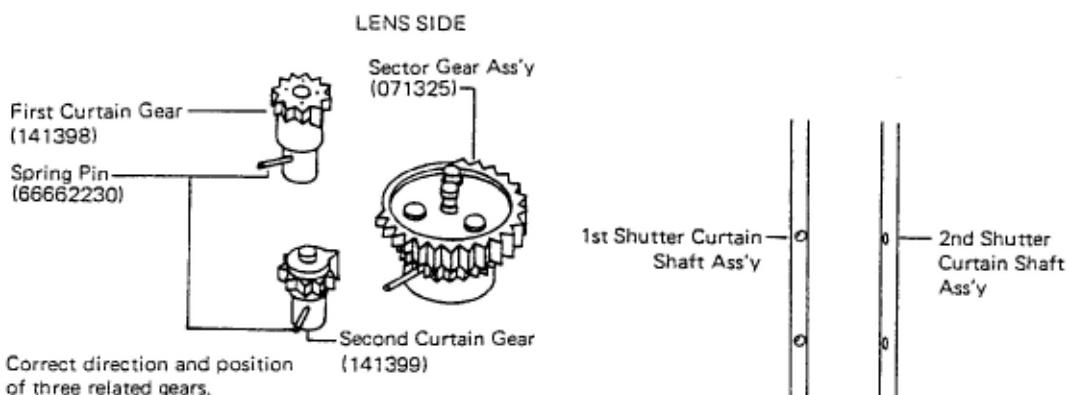

Fig. 24
- b) For a preparation of the following procedure, insert the Spring Pin (66662230) to the Second Curtain Gear (141399) about 1/3 deep of its length. (fig. 24)
- Pay attention to the direction and position of a large tooth on a Second Curtain Gear (fig. 24)